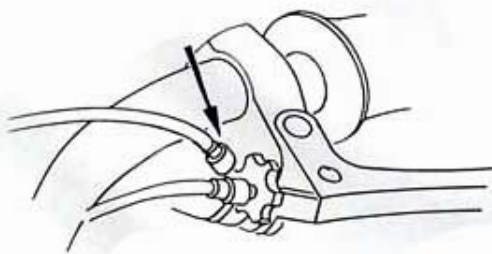

Fig. 4
- Adjust the tension at the choke lever adjuster (a small amount of free movement is required and should not exceed $\frac{1}{4}$ ", fig. 4).